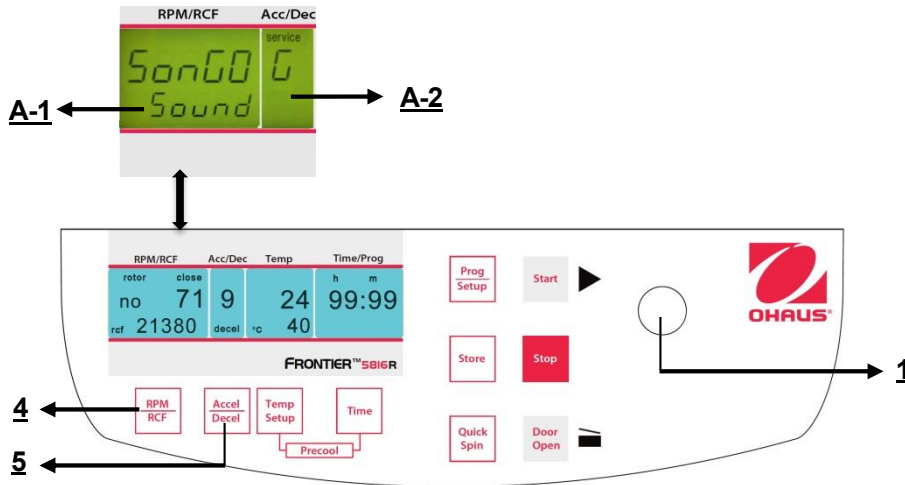

Figure. 34
Proceed as described under point 4.1.1 to enter this program mode and then press the key **"Accel/Decel"** (5). In the display **"Acc/Dec"** (A-2) the word **"Service"** flashes. Now select the letter **"G"** with the adjusting knob (1). As a result, in the display **"RPM | RCF"** (A-1), the word **"SonGo/Sound"** appears. After pressing the key **"RPM | RCF"** (4), you can select a song with the adjusting knob (1). (See figure 34). After you have stored the settings (see 4.1.1) you can change back to the normal program mode again by switch off the centrifuge for a short while.